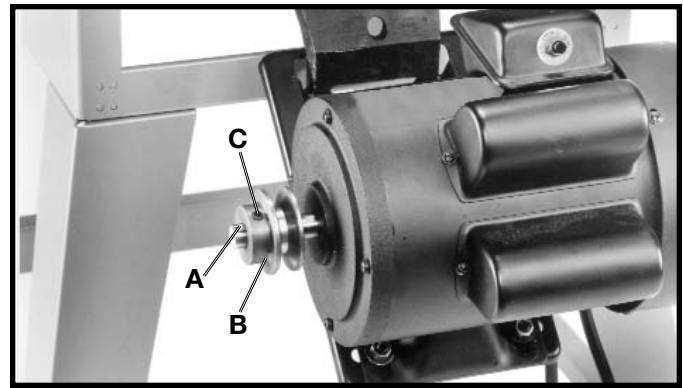

Fig. 20
2. Insert key (A) Fig. 20, in the keyway on the motor shaft. Assemble motor pulley (B) on motor shaft as shown, with the hub of the pulley out. Tighten set screw (C) against key (A) in motor shaft.